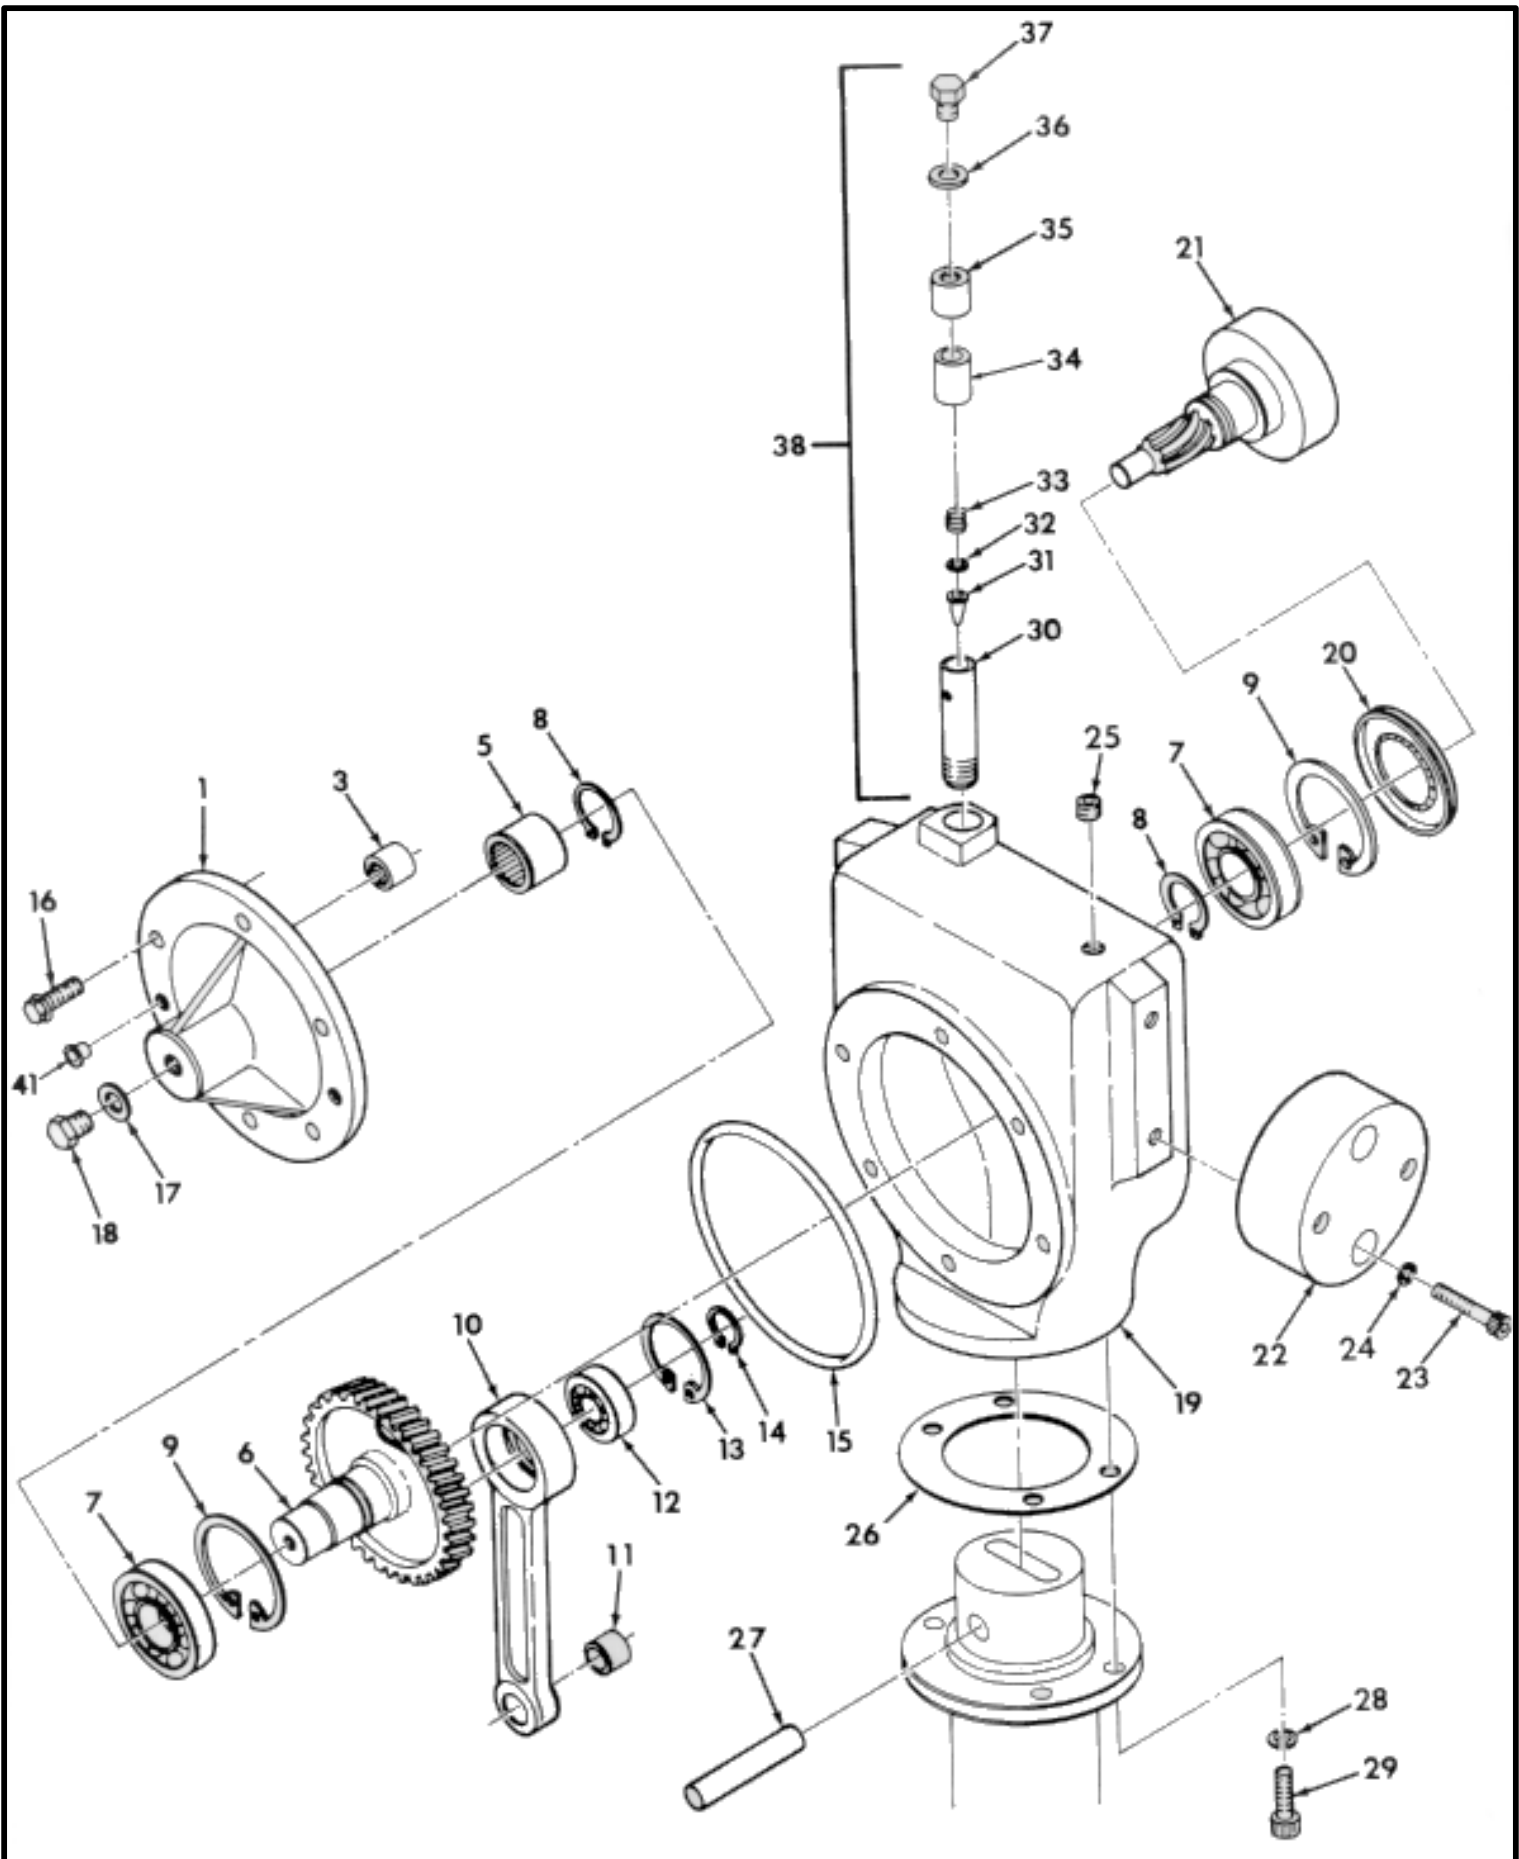

FIGURE 7: 270, 450 & 451 GEARBOX
5. Apply Loctite #242 to six Flange Whiz Lock Screws (Fig 7, #16) and install. Tighten equally and torque to 12 ft lbs (16 N•m).
6. If the Shockmounts (Fig 7, #22) were removed, apply Loctite #242 to the four Socket Head Cap Screws (Fig 7, #23) before assembly. Torque the four Socket Head Cap Screws to 35 ft lbs (47 N•m).
7. Replace Seal Washer (Fig 7, #17) if damaged. **Do not** over tighten Hex Head Cap Screw (Fig 7, #18).
8. Use Loctite #242 on the Breather Tube Assembly (Fig 7, #30). Torque to 50 ft lbs (68 N•m).
9. Before installing the Gearbox to the Lower System, install a new Gasket (Fig 7, #26) on the top of the Lower System.
10. Torque the four Socket Head Cap Screws (Fig 7, #29) holding the Gearbox to the Lower System to 60 ft lbs (81 N•m).